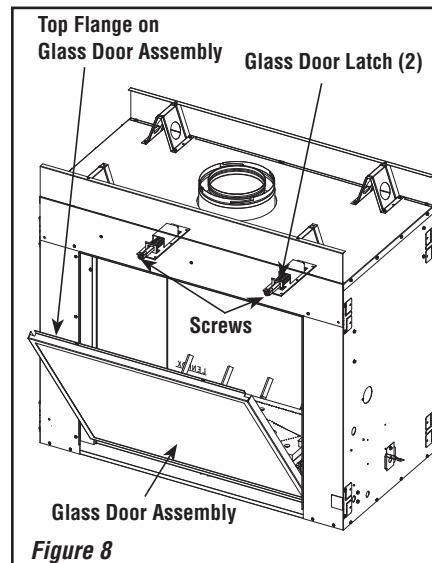

Figure 8
Removing Glass Doors, Mesh Pull Screens, and Modesty Panel (see Figure 8)
- a) See **Figure 8**. While holding the top of the glass door frame in place, use a #3 Phillips screwdriver to remove the two (2) screws securing the door frame to the two (2) door latches.
- b) Carefully tilt the top of the glass door frame away from the unit (as shown in **Figure 8**), and then lift the door assembly up and out of the lower track.
Installing Glass Doors, Mesh Pull Screens, and Modesty Panel (see Figure 8)
- b) Position the door in front of the firebox opening, with the top of the door held away from the fireplace (see **Figure 8**).
- d) Using a #3 Phillips screwdriver, fasten the door frame to the door latches with the two (2) latch screws. The latches should pull forward to engage the door frame.